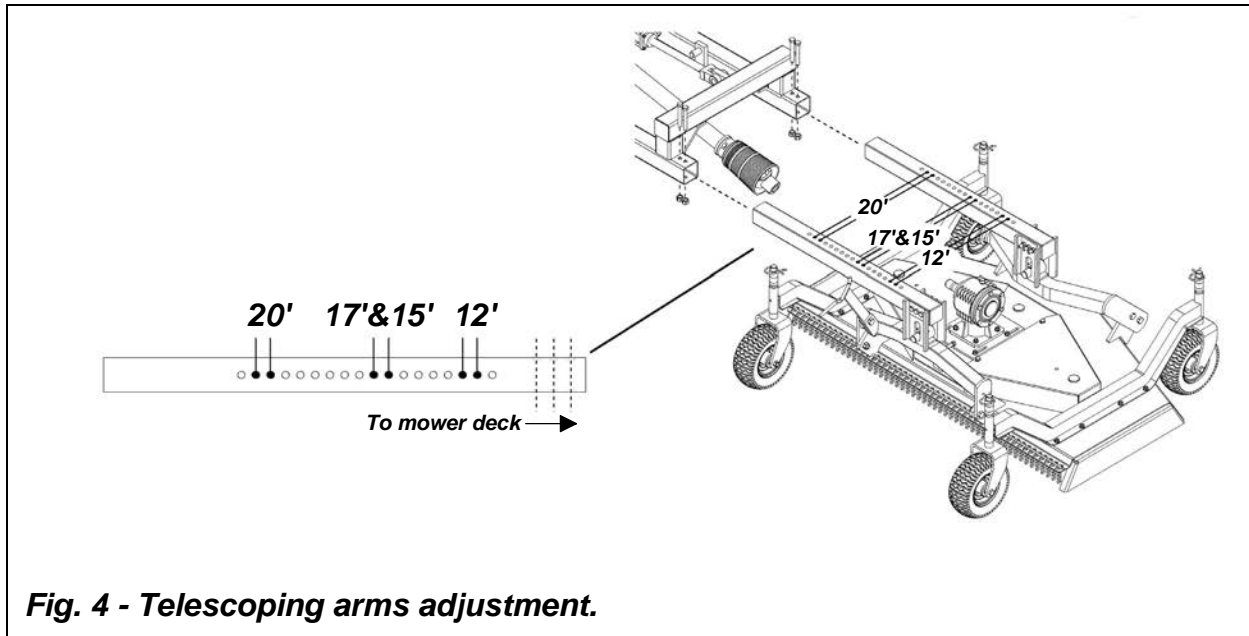

Fig. 4 - Telescoping arms adjustment.
10. Extend telescoping arms out to proper operating width. The proper operating width depends on the overall size of the mower (**see fig. 4**).